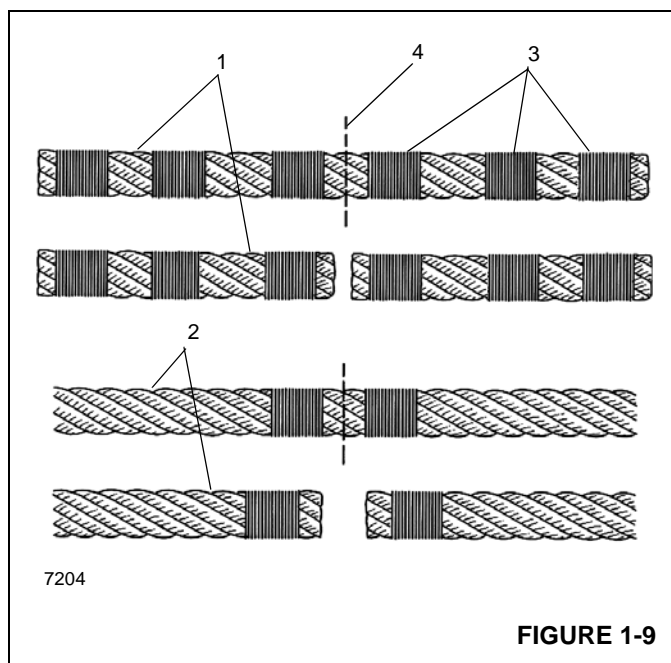

FIGURE 1-9
NOTE: Non-preformed wire rope (1) (Figure 1-9) should have three seizings (3) located on each side of the cut (4) as compared to preformed wire rope (2).